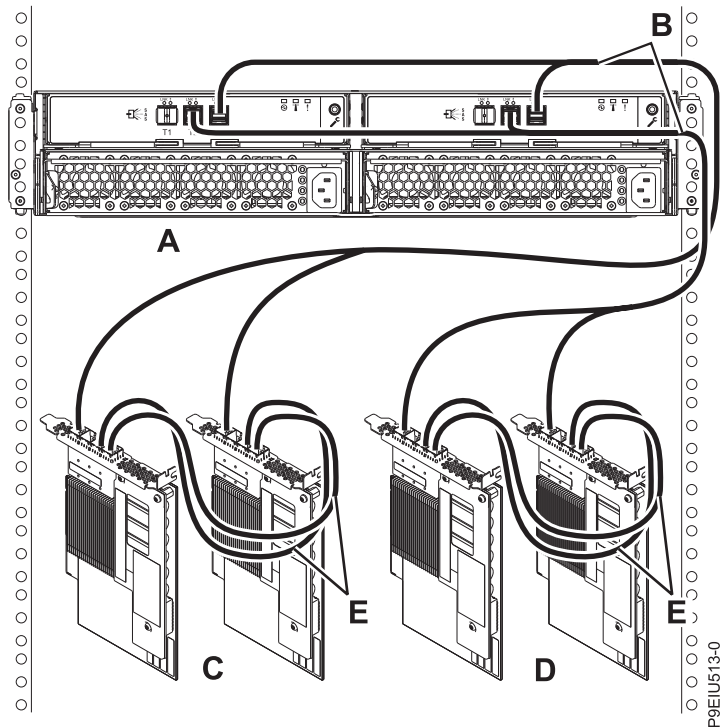

Figure 18. Mode 2 connection of one ESLS by using X12 cables to two FC EJ0L SAS adapter pairs or two FC EJ14 SAS adapter pairs with AA cables
18. Complete a mode 2 connection of one enclosure **(A)** by using X12 cables **(B)** to two FC EJ0L SAS adapter pairs or two FC EJ14 SAS adapter pairs **(C and D)** with AA cables **(E)**, as shown in Figure 18 on page 18. Then, continue with “Connecting cables, power cords, and installing covers” on page 20.